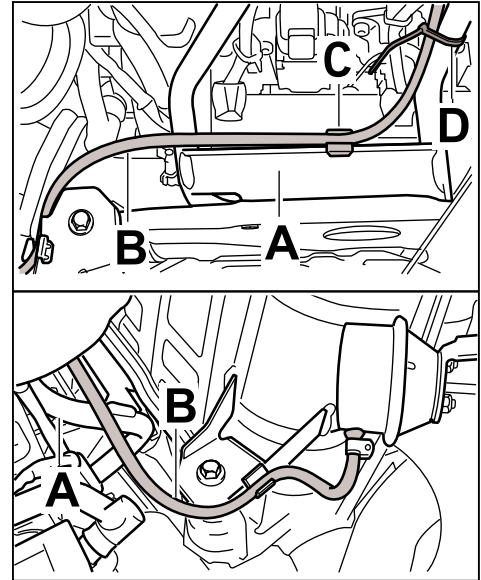

Figure 8
- 3.5 Position rear muffler on the rear muffler holder at the engine side (\Rightarrow *Figure 8-A-*) with the help of a second person, who must pull the auxiliary lines into the engine compartment at the same time, and pre-fit loosely using new M8 hexagon nuts (3 x).
- 3.6 Clip hose (encased in steel; \Rightarrow *Figure 8-B-*) into the hose clip (7.0 - 9.0; \Rightarrow *Figure 8-C-*) and secure it to the rear muffler holder at the engine side using a tie-wrap (\Rightarrow *Figure 8-D-*).